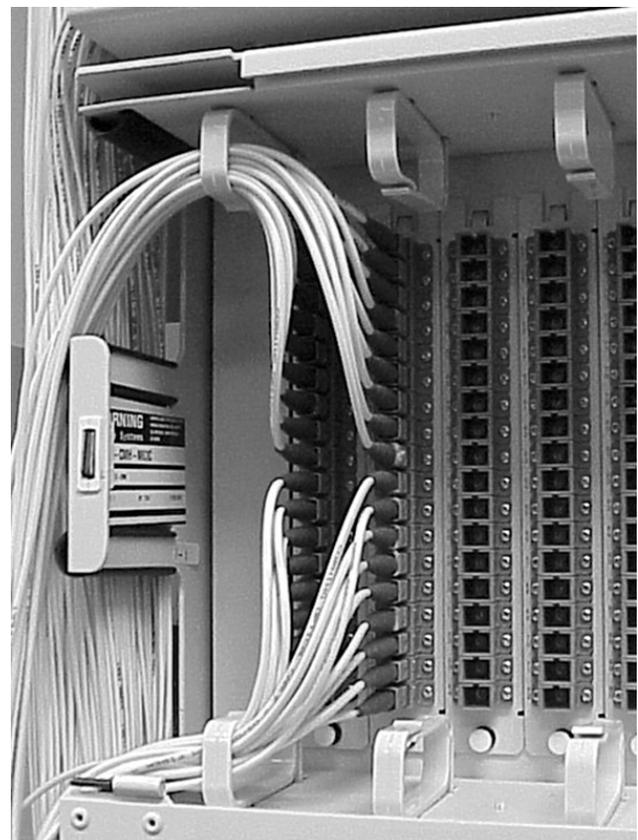

Figure 10
- Step 4:** Route pigtails to the appropriate routing guide in the top or bottom of the housing (Figure 10) to create an organized installation. Label the end of the pigtail with an identification tag that corresponds to the panel's position in the housing.
- Step 5:** When using the LTX-MCH-M63C-FOT version of the unit, route the 3 mm jumpers through the top and bottom routing guides in the rear of the unit in the same manner shown in Figure 10 for pigtail routing in the front of the housing.